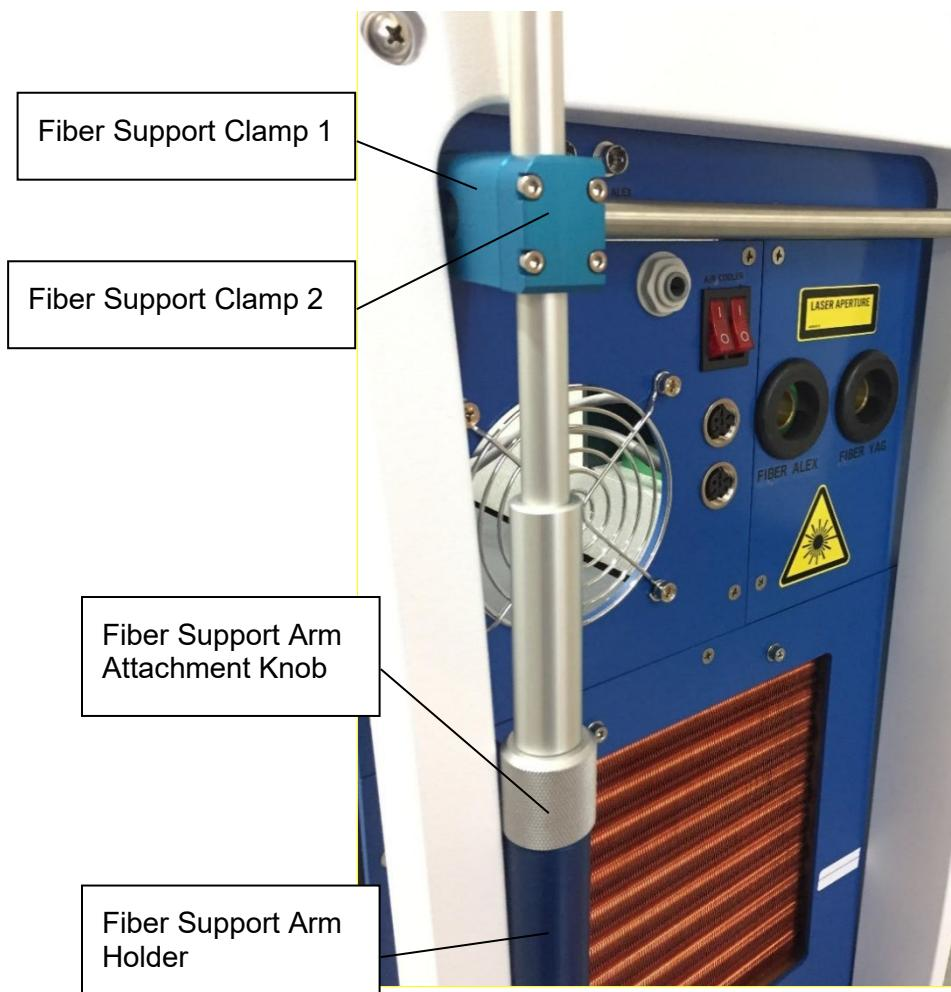

Figure 4-2. Fiber Support Arm Installation
The black adjustment knobs on the arm (see Figure 3-3) can be loosened in order to position the arm segments in the desired positions. Then, firmly lock the knobs in place to keep the arm rigid. For installation, position the arm as shown in Figure 4-2. Screw the attachment knob all the way into the fiber support holder. The pole should rest in the groove of the clamp already installed on the rear of the machine. Once the pole is installed, attach the second piece, Fiber Support Clamp 2 (see Fig. 4-2) with (4) M3 screws. Tightening the M3 screws all the way will lock the pole in place while loosening the screws will allow the pole to freely swing back and forth.